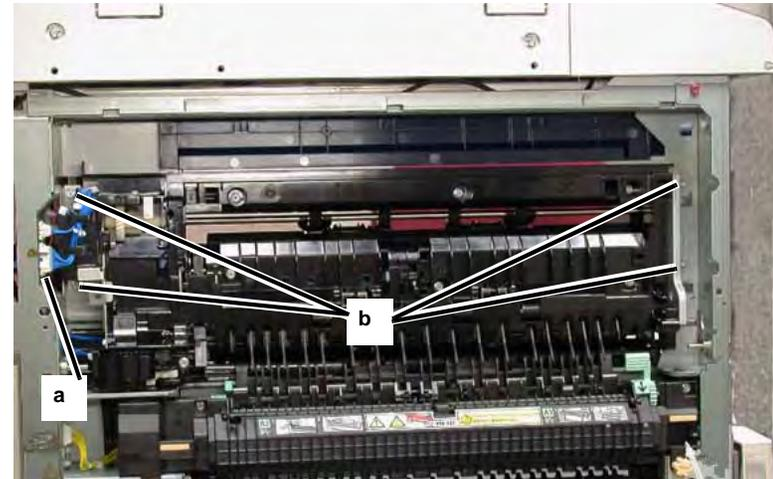

Figure 9 Removing Screws
10. Remove the Exit 2 Assembly (Figure 9).
- a. Disconnect the PJ's (2).
- b. Remove the screws (4), and remove the assembly.